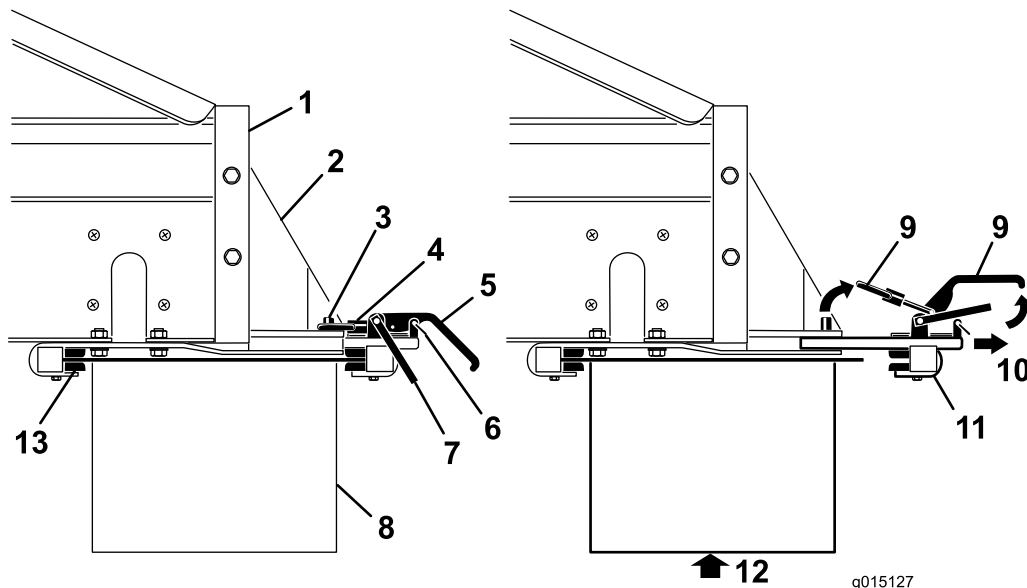

Figure 37
6. With assistance, insert the front edge of the cross conveyor/swivel up and under the rear of the MH-400 into the front clamps on the brackets (Figure 37).
7. While supporting the cross conveyor/swivel, slide the rear option attachment clamp assembly back into the slots in the brackets, and over the rear edge (Figure 37).
3. Remove the safety latch clips from the clamp handles (Figure 37).
4. Lift the safety latch, then lift the option attachment clamp handles, and release the lock rings from the lock pins (Figure 37).
5. Slide the rear option attachment clamp assembly out of the quick-attach slots (Figure 37).
9. Reinstall the safety latch clips to the clamp handles (Figure 37).